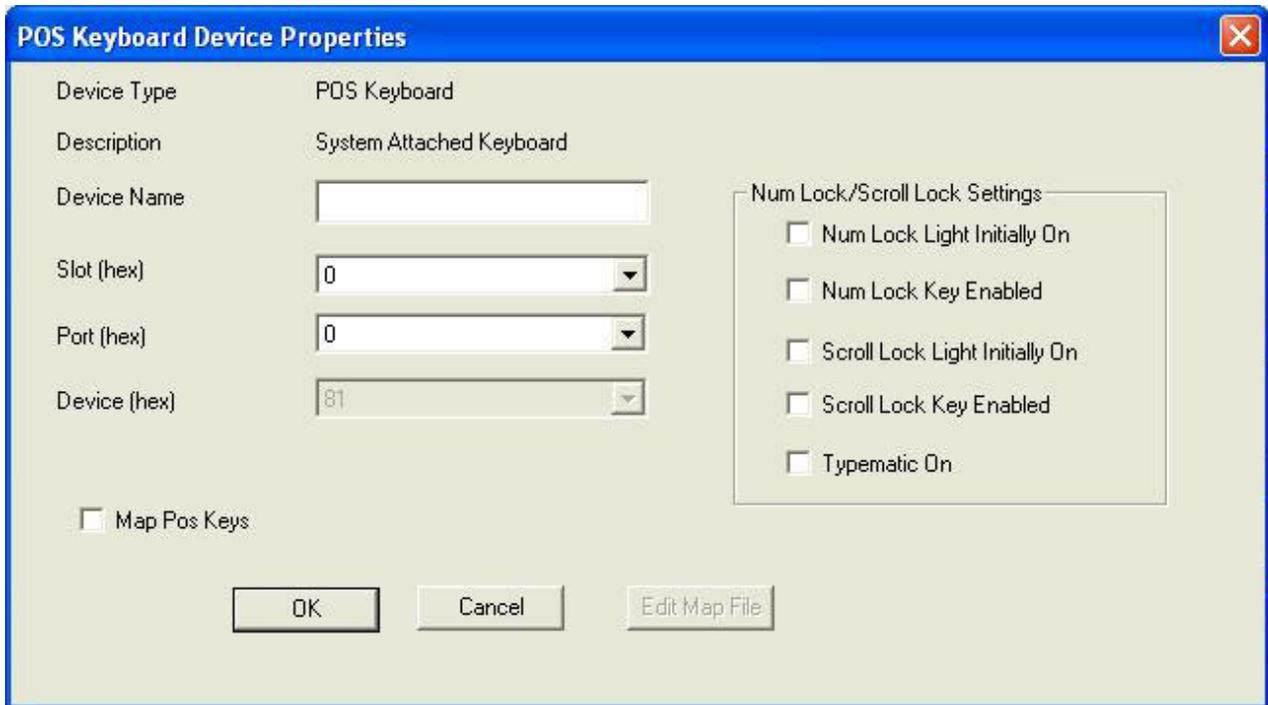

Figure 22. Keyboard properties dialog
1. Select a POS keyboard entry and click **Configure**. The keyboard configuration dialog is displayed (see Figure 22).